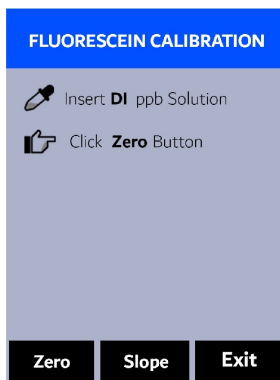

Figure 21.
1. Rinse the main module sample cell three times with deionized (DI) water. Fill the sample cell with the DI water.
4. Press  to launch the **FLUORESCIN CALIBRATION** screen (Figure 21).